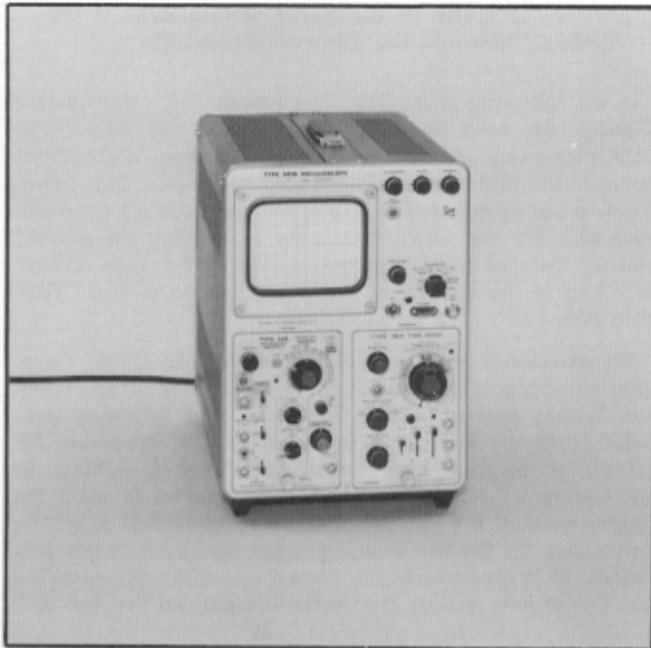
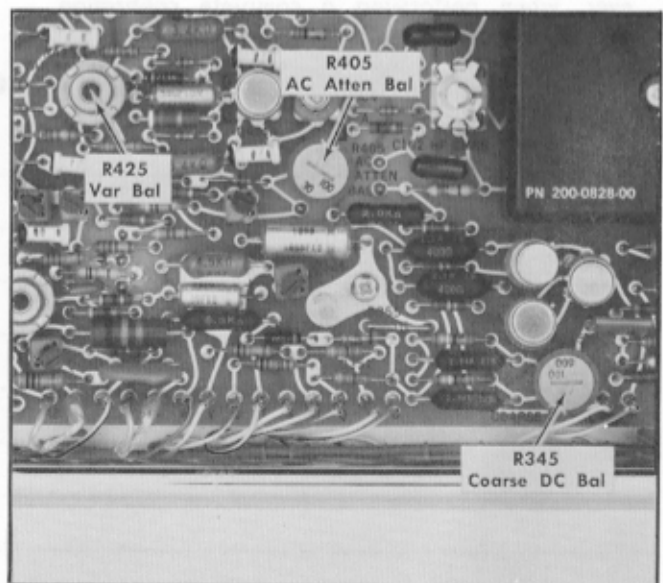

Fig. 5-1. Equipment required for steps 1 through 3.
Fig. 5-2. Location of controls used in steps 1 through 3.
1. Check or Adjust AC Atten Bal ❶
- a. Test equipment is shown in Fig. 5-1.
- e. ADJUST—AC Atten Bal control, R405, (see Fig. 5-2) to position the trace within 1.5 divisions of graticule center.
2. Check or Adjust Variable Bal ❷
- f. ADJUST—Variable Bal control, R425, (See Fig. 5-2) for no trace shift while rotating the VARIABLE control throughout its range.
3. Check or Adjust Coarse DC Bal ❸
- e. ADJUST—Coarse DC Bal, R345 (See Fig. 5-2) to position the trace to graticule center.